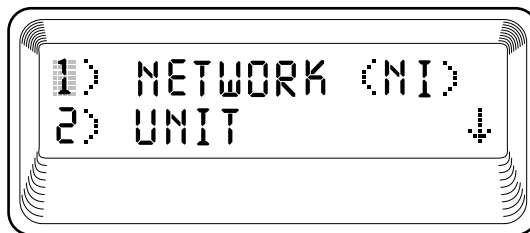

Figure 4-2
5)CLK SOURCE	XXX*	NETWORK (NI), TI(LOOP)
From the Main menu select the Configuration menu. The unit displays the first two Configuration submenu items: Network (NI) (network interface) and Unit (see Figure 4-2).